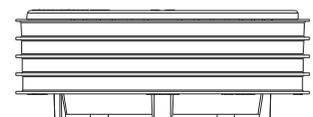

Fig. 10
7. Make sure gasket is pushed all the way up the body. See Fig. 10